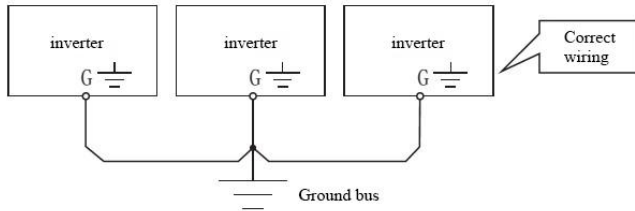

figure 1-1
- For safety reasons, the ground terminal of the frequency inverter must be reliably grounded . In order to avoid the influence of ground common impedance interference, The grounding of multiple frequency inverters should use a point grounding method, as shown in Figure 1-1 .